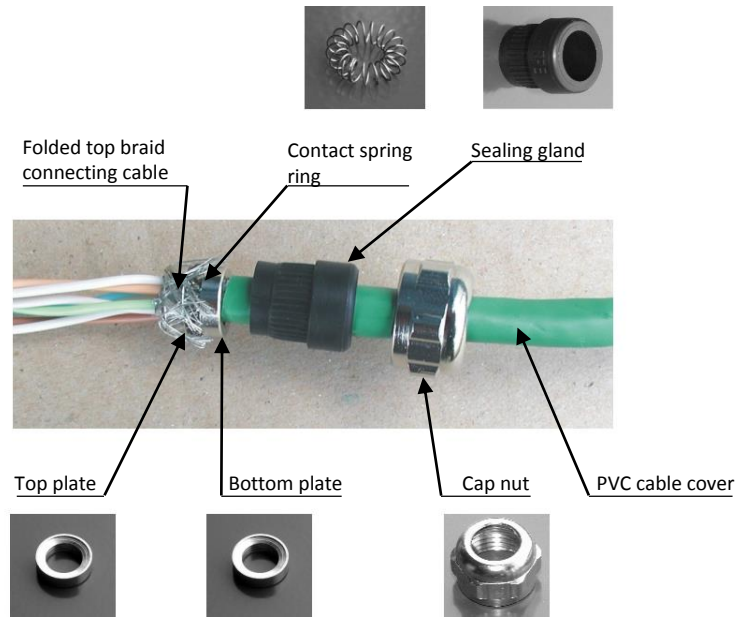

Figure 28 The grommet installation
- The twisted shield will be untwisted and released somewhat. Then it will be pulled over the washers on the cable and shortened at the bottom washer (figure 28). No wire of the shielding must go over the bottom washer, in order to tighten the sealing grommet by the pull-over nut well on the cable, and thus seal the grommet properly.